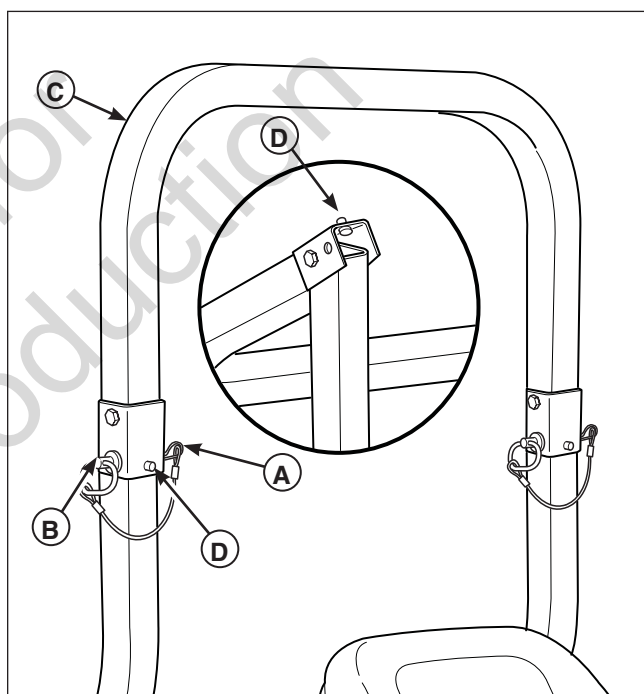

Figure 5. Raise & Lower the Roll Bar
1. Pull the hair pin clips (A, Figure 5) out of the retainer pins (B).
2. Push or pull the top of the roll bar (C) forward against the rubber stops (D) and remove the retainer pins (B).